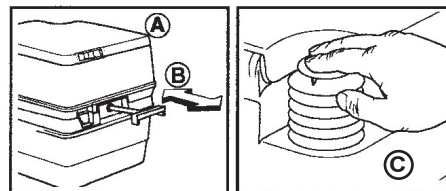

Figure B53 (A-C): Porta-Potti - Bellows Flush Operation
Before each use: With seat cover closed, open and close the holding tank valve (Figure B53-A & B) to vent any pressure that may have built up as a result of heat or altitude. This prevents upward splashing of bowl contents when toilet is flushed.
1. Pull out holding tank valve handle (Figure B53-B).
2. Push down on bellows to rinse the bowl. (Figure B53-C).